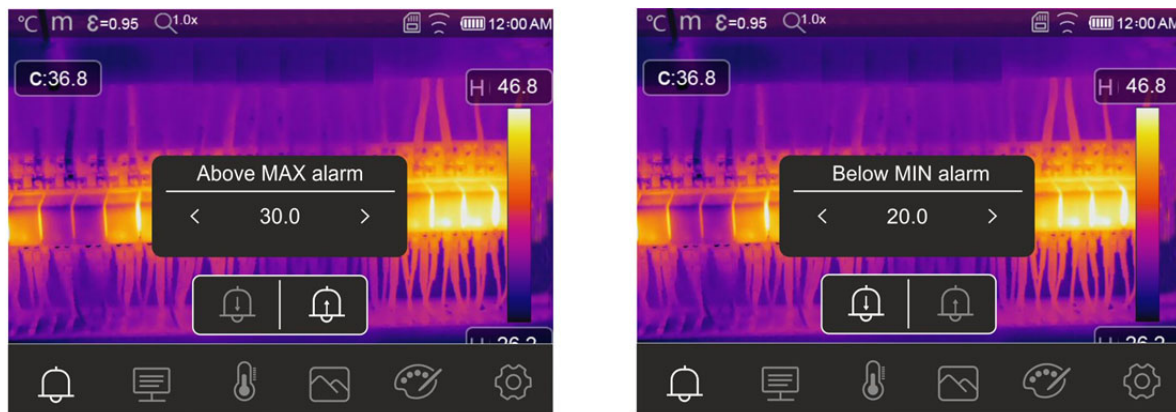

Fig. 44: Setting of limit thresholds on alarms
3. Touch the icon “” to define the **high** threshold value associated with the alarm. The screen in Fig. 44 – left side appears on the display.
5. Touch the icon “” to define the **low** threshold value associated with the alarm. The screen in Fig. 44 – right side appears on the display.